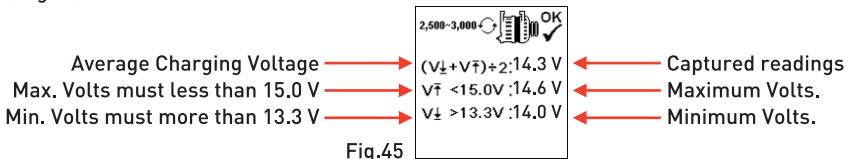

Fig.45
6. While still holding around 3,000 RPM, the timer will start to countdown from 10 s to 0 s. As soon as it reaches 0s, the results will automatically display as example shown below (Fig.45).
Continue from the previous test (either Fig.45, 46 or 47); the analyser will automatically proceed to load test at 1,500 to 2,000 rpm as shown in Fig.48 below.